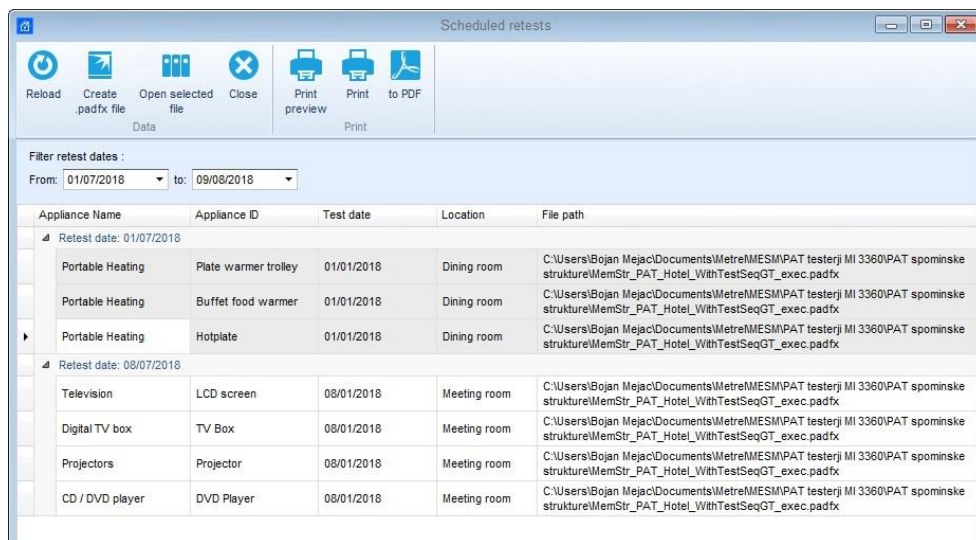

Figure 7.9: Scheduled retests editor menu
- **Scheduled retests editor Options (Figure 7.9):**